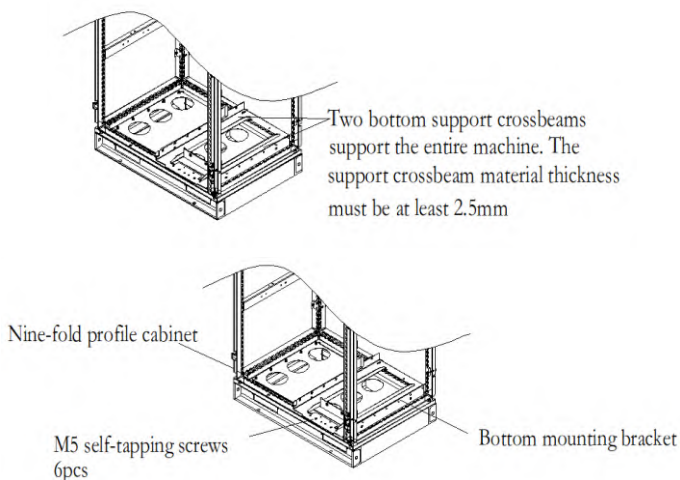

Figure 4-13 Bottom mounting bracket diagram
2. Fix the bottom support crossbeams and mounting bracket. (See Figure 4-13.)